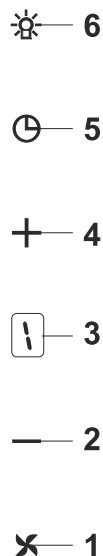

Fig. 20: 5 Spd Dig Button
1. Press this button to turn on the product.Fig. 20
2. Press this button to decrease the motor speed.Fig. 20
3. Dig display You can follow which speed the product is currently working on this display.Fig. 20
4. Press this button to increase the motor speed.Fig. 20
5. When timer button is pressed, a 15-minute timer function will be activated; display will give a signal once the timer starts and the motor will stop automatically after 15 minutes.Fig. 20
6. Press this button to turn on and off the lamp.Fig. 20